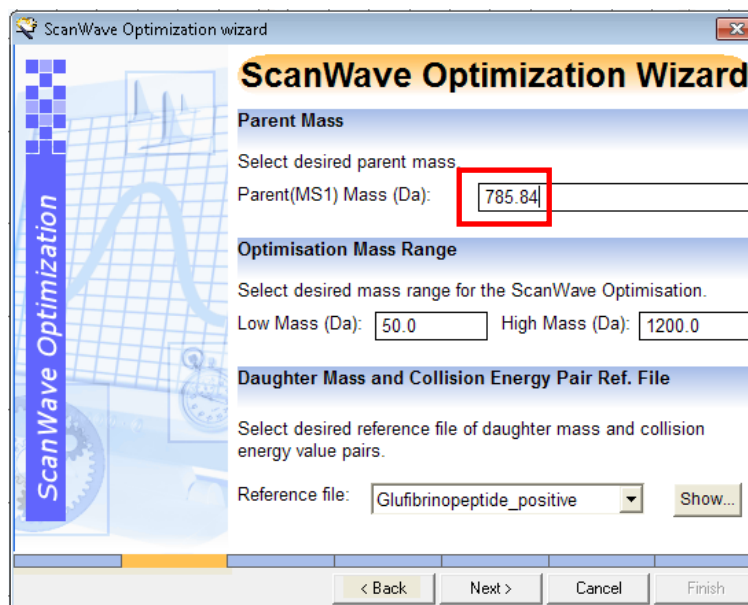

Figure 41 - Specifying the ScanWave optimization parameters
19. Specify the values shown in Figure 41, then click **Next**.